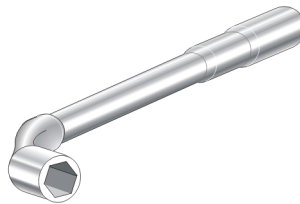

Figure 1-9 Door Key
- **Door key** - The door key with 5/16" socket (Figure 1-9) is required to open the front or rear door of the FC-512 Fabricenter equipment cabinet. A 5/16" socket wrench may be used in lieu of the door key.